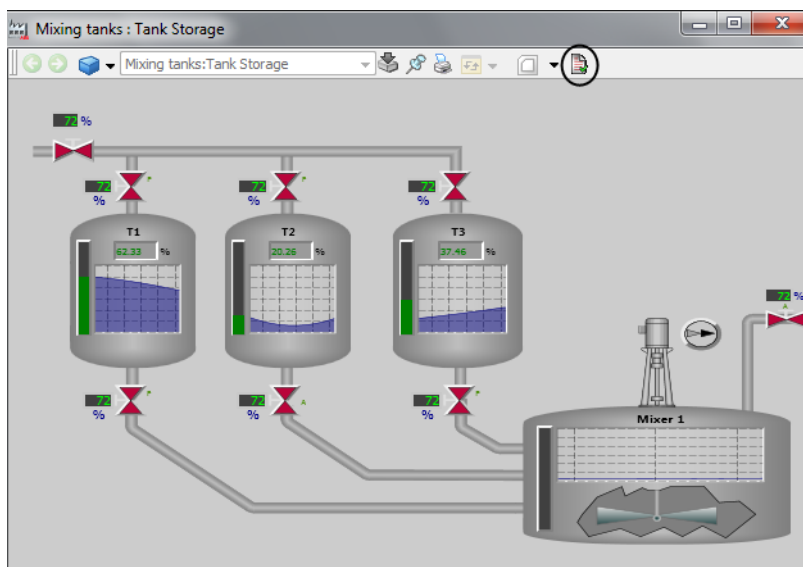

Figure 46. Display bar of a graphic aspect
1. Click the  icon on the display bar of the graphic aspect preview as shown in Figure 46.